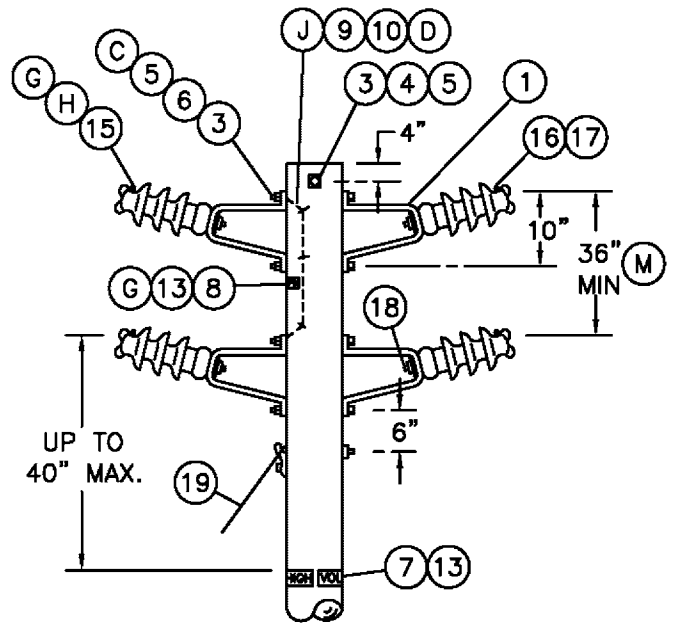

FIGURE 2
- (C) INSTALL DOUBLE COIL SPRING WASHER SO IT CONTACTS BRACKET.
- (D) BONDING OF THE BRACKETS IS ONLY REQUIRED WITHIN HEAVY CONTAMINATION AREA, DISTRICT 1 ON PAGE 287. USE BONDING PROVISIONS ON BRACKETS, IF THEY ARE FURNISHED.
- (F) SUBSTITUTE A CLASS 55-3 INSULATOR (STOCK NO. 429216) FOR NEUTRAL IDENTIFICATION.
- (G) IF A SMALLER LINE POST INSULATOR IS NOT AVAILABLE FOR NEUTRAL AS COMPARED TO THOSE ON THE PHASE POSITION, THE "PN" SIGN SHALL BE USED TO IDENTIFY THE NEUTRAL.
- (H) RESISTANCE GLAZE (RG) CLAMP TOP POST INSULATORS (STOCK NO 428952) SHALL BE USED WHEN AVAILABLE ON TRIAL APPLICATIONS ON PHASE CONDUCTORS IN HEAVY CONTAMINATION AREAS AS DEFINED ON PAGE 287 AND ONLY USING FIGURE 2 CONSTRUCTION. CONDUCTOR CLAMPS ARE REQUIRED WITH "RG" INSULATORS. INSTALL A "DO NOT WASH" SIGN ABOVE THE POLE TAGS IN SIGHT OF ON-COMING TRAFFIC.
- I. USE FIGURES 2 OR 3 WHERE NEUTRAL MAY BE REQUIRED IN THE FUTURE. CONSULT WITH DISTRICT ENGINEER.
- (J) TO PREVENT RADIO INFLUENCE VOLTAGE (R.I.V.), DO NOT LOCATE BOND WIRE STAPLES WITHIN 1" OF BOLTS.
- (L) ORDER (ITEM 18) FOR HPI ONLY.
- (M) FOR SPAN LENGTHS GREATER THAN 250', THE CONDUCTOR SPACING IS DETERMINED BY THE FORMULA: